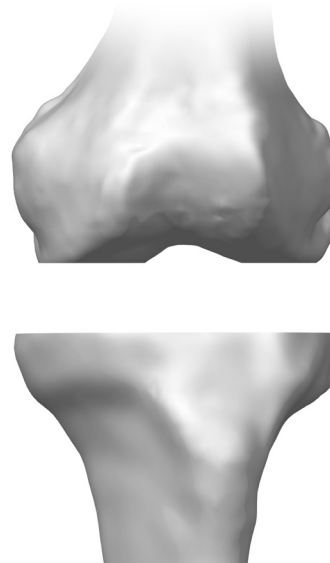

Fig. 43
1. Perform Distal Femoral and Proximal Tibial Resection (Fig. 43)